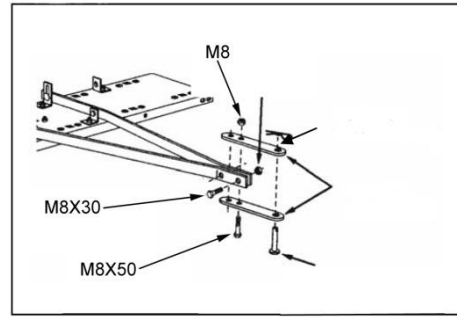

Figure 4
5. Assemble the front part of the towing arms with two M8x30 bolts and M8 lock nuts. Secure the coupling on the towing arm with two M8x50 bolts and two M8 lock nuts. Do not tighten fully yet. Insert the towing pin in the coupling. Secure it with the spring pin (fig. 4).